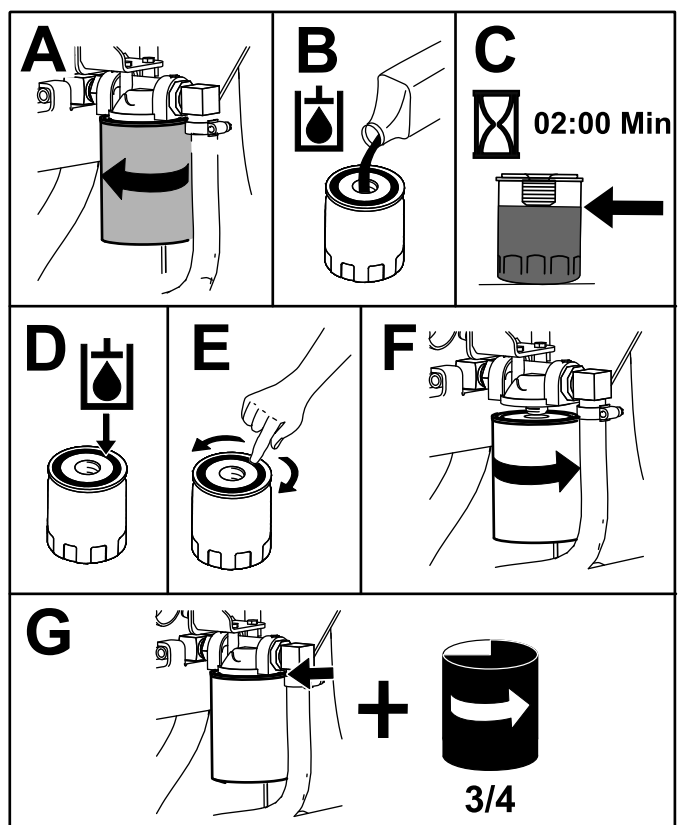

Figure 72
4. Place a drain pan under the filter and replace the filter (Figure 72).